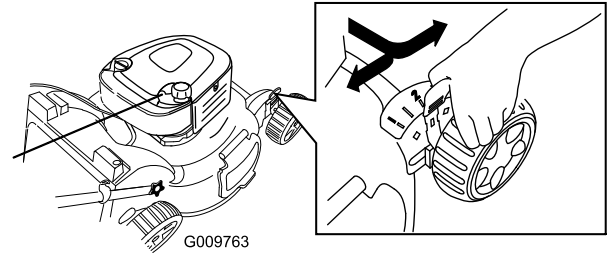

Figure 17
**Note:** To raise the machine, move all 4 cutting height levers forward; to lower the machine, move them all rearward (Figure 17).